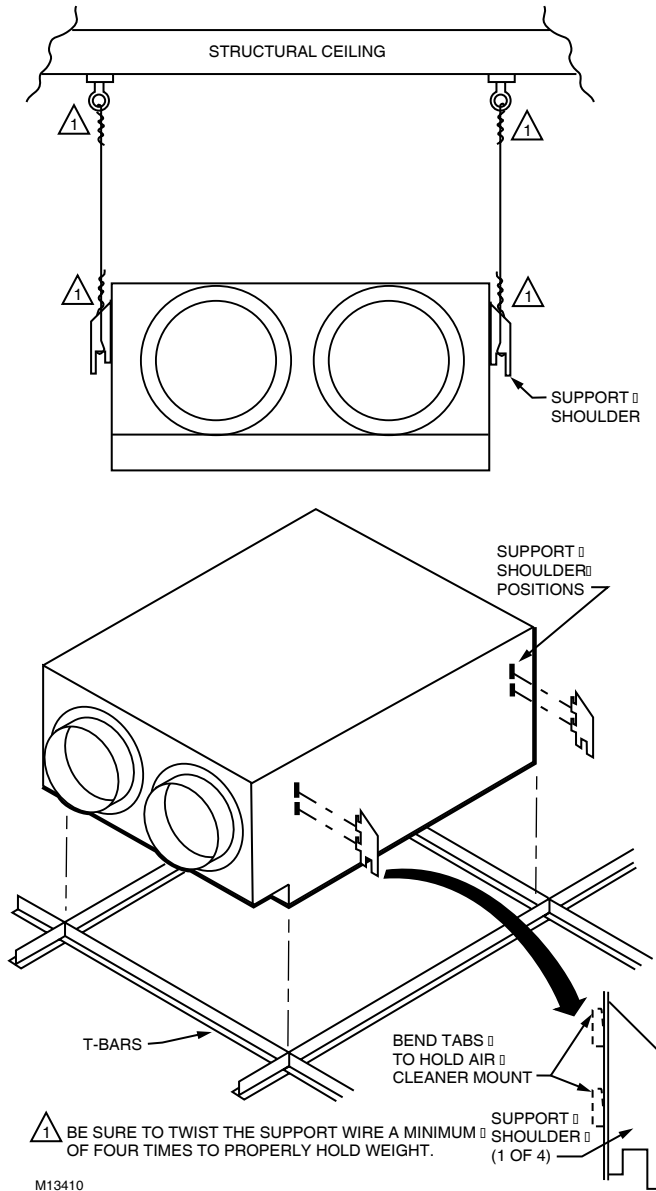

Fig. 6. Installing return module.
1. The return module mounts level with the drop ceiling T-bars. Mark the location for the mounting bolts in the structural ceiling. See Fig. 6.